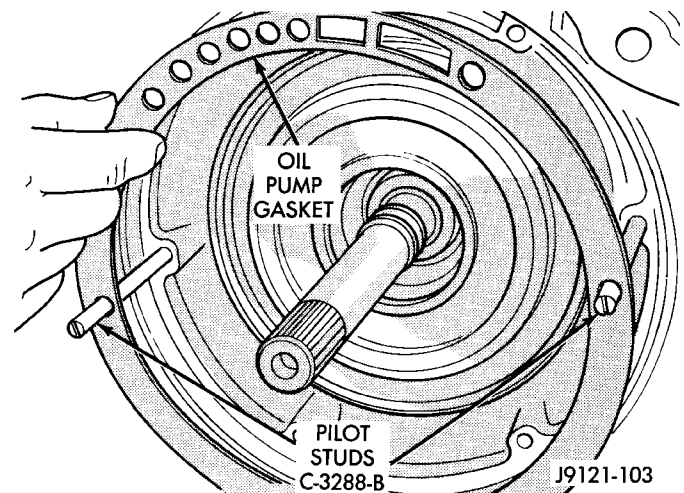

Fig. 140 Oil Pump Gasket And Pilot Studs
(1) Install oil pump Pilot Studs C-3288-B in case (Fig. 140).
(2) Install new oil pump gasket on pilot studs and seat it in case. Be sure gasket is properly aligned with fluid passages in case (Fig. 140).